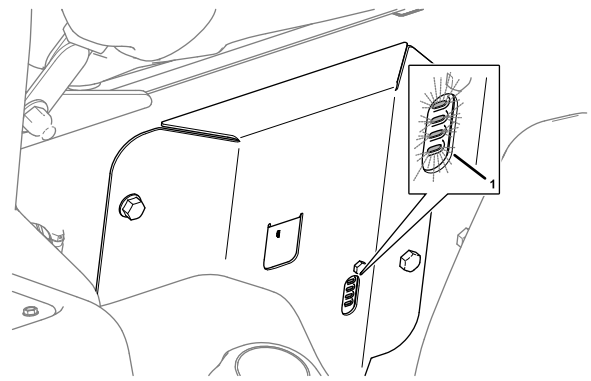

Figure 196
- Modem—the LED indicators illuminate (Figure 196).